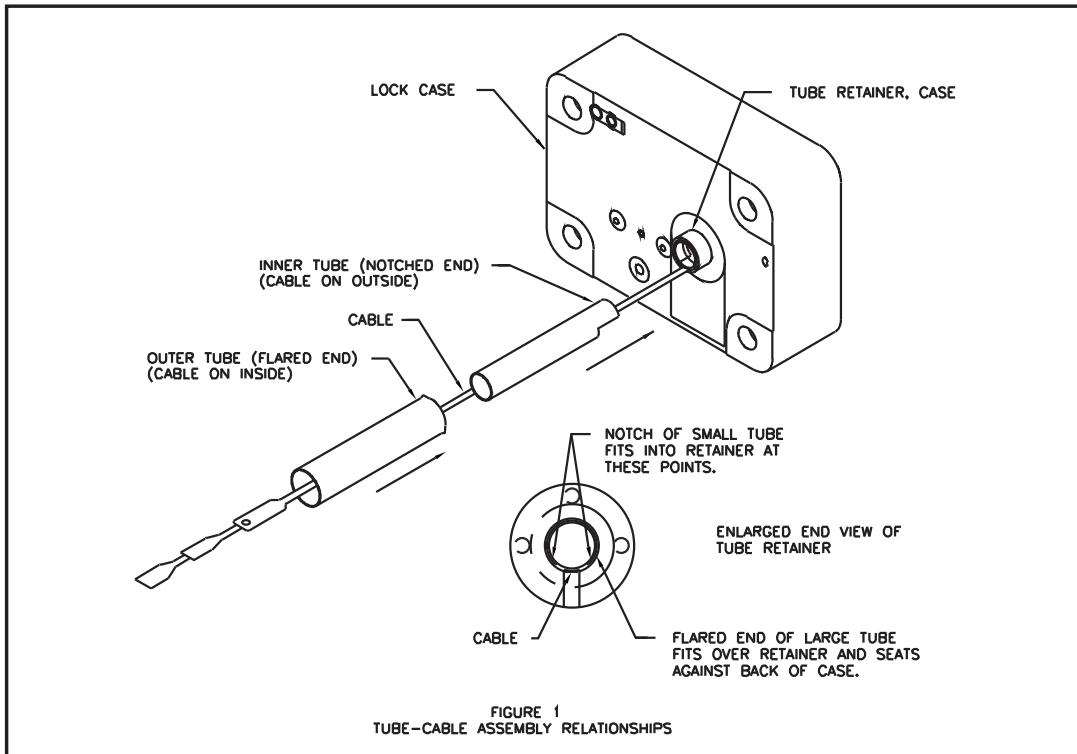

Figure 4- Tube-Cable Assembly Relationships
3. Feed the cables through the outer, larger, tube starting from the flared end of the tube. Seat the tube into position on the tube retainer on the back of the lock case assembly. (See Figure 4) Be careful to keep the cables pulled taut while seating the tube to avoid pinching damage to them.
- Feed the cables through the outer tube from the flared end. Seat the tube into position on the tube retainer on the back of the lock case assembly. (See Figure 4 on page 4.) Be careful to keep the cables pulled taut while seating the tube to avoid pinching and damaging them.